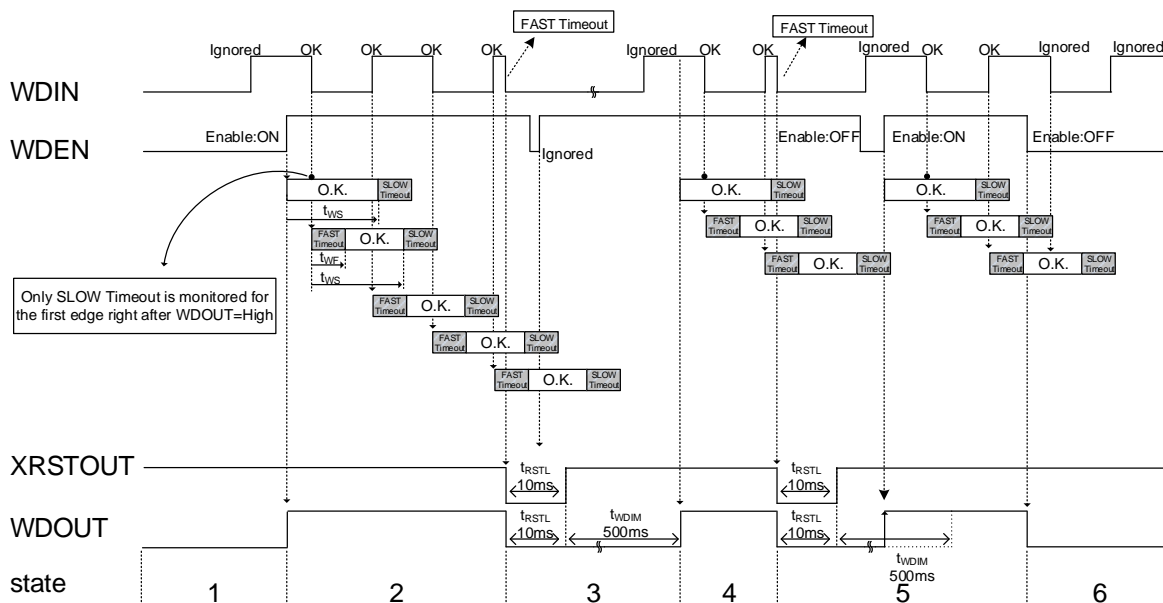
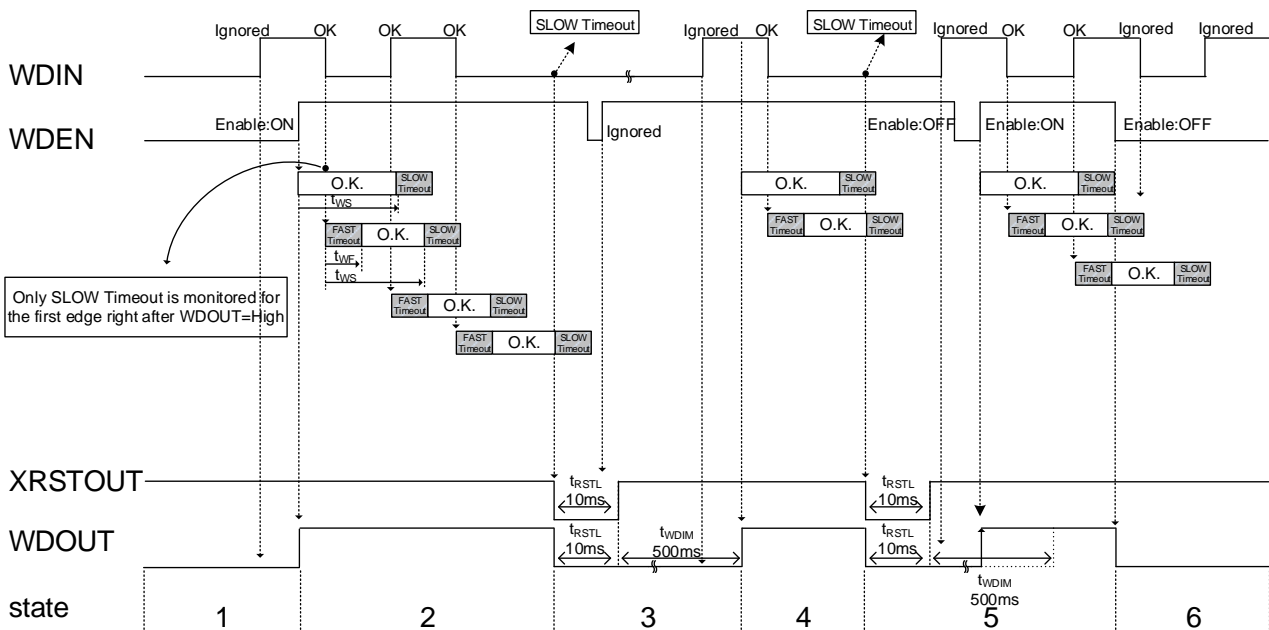

Figure 2. WDT FAST Timeout Detection
Figure 3. WDT SLOW Timeout Detection
Sequence for FAST Timeout and SLOW Timeout are shown in Figure 2 and Figure 3.
3. These time detection monitors the time until next edge and when it detects WDIN edge within FAST Timeout (t_{wF}), XRSTOUT and WDOUT becomes Low. XRSTOUT goes back to High after 10 ms (Typ) delay, while WDOUT goes back to High after t_{WDIM} (500 ms: Typ) in addition to t_{RSTL} (10 ms: Typ) as long as WDEN=High. t_{WDIM} is implemented as a time for microprocessor to be reset normally and stabilized. If this time is unnecessary and WDT should be activated as soon as possible, WDEN may be controlled like state 5 in the Figure 2.
5. When WDOUT becomes High, WDT is activated again and operation resumes. Only SLOW Timeout detection works until the next first edge, and both SLOW Timeout and FAST Timeout starts at the first edge like state 1 in Figure 2.
6. If this time is unnecessary and WDT should be activated as soon as possible, WDEN may be controlled like in Figure 2. t_{WDIM} is canceled by toggling WDEN like High->Low->High and WDT is activated immediately even during t_{WDIM} . After WDT is enabled it works as same as state 2 in Figure 2.
3. These time detection monitors the time until next edge and when it can not detect WDIN edge within SLOW Timeout (t_{WS}), XRSTOUT and WDOUT becomes Low. XRSTOUT goes back to High after 10 ms (Typ) delay, while WDOUT goes back to High after t_{WDIM} (500 ms: Typ) in addition to t_{RSTL} (10 ms: Typ) as long as WDEN=High. t_{WDIM} is implemented as a time for microprocessor to be reset normally and stabilized. If this time is unnecessary and WDT should be activated as soon as possible, WDEN may be controlled like state 5 in the Figure 3.
4. When WDOUT becomes High, WDT is activated again and operation resumes. Only SLOW Timeout detection works until the next first edge, and both SLOW Timeout and FAST Timeout starts at the first edge like state 1 in Figure 3.
5. If this time is unnecessary and WDT should be activated as soon as possible, WDEN may be controlled like the Figure 3. t_{WDIM} is canceled by toggling WDEN like High->Low->High and WDT is activated immediately even during t_{WDIM} . After WDT is enabled it works as same as state 2 in Figure3.